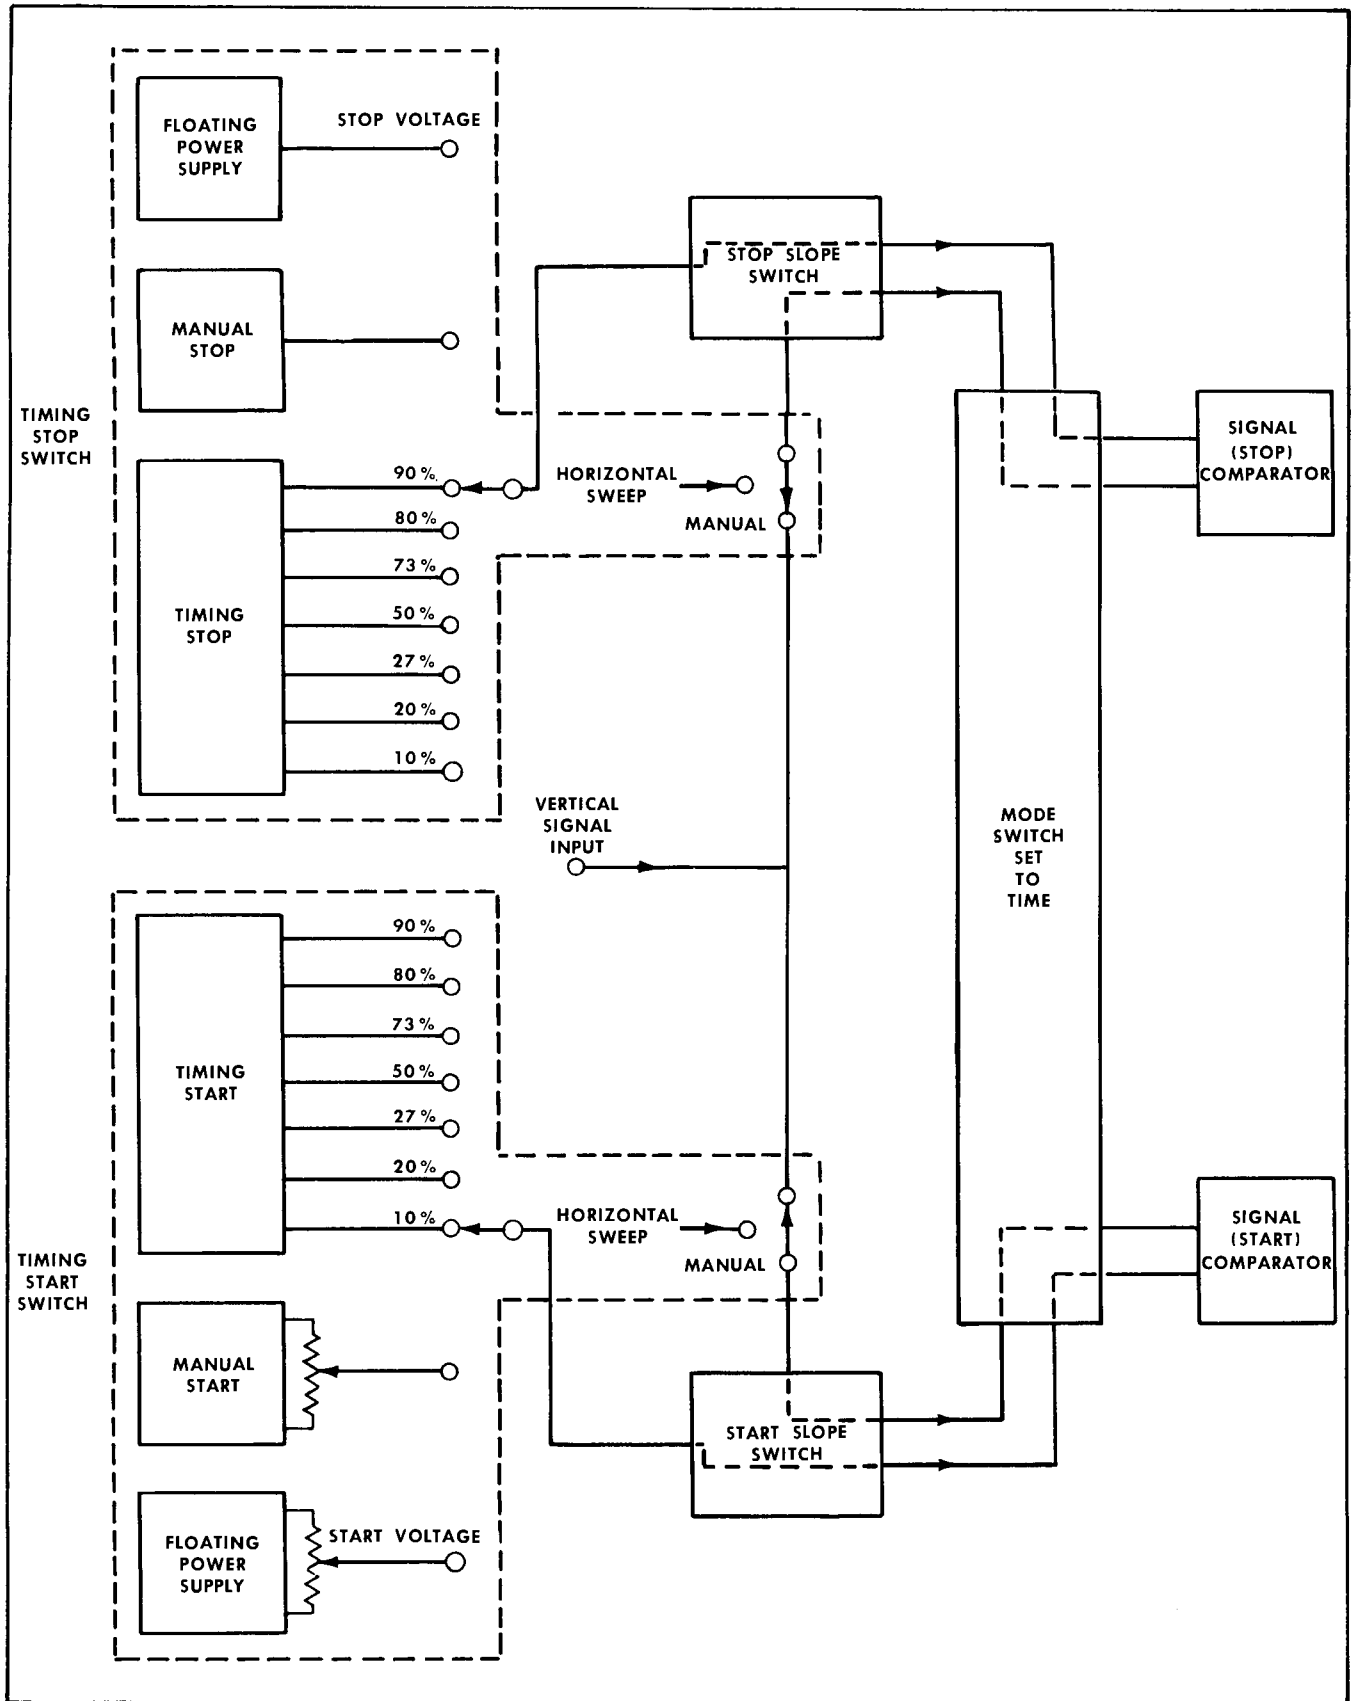

Fig. 4-4. Connection to comparators in time measurements.
The next part of the system contains the circuits that feed the start and stop signal comparators (see Fig. 4-4). Since the comparator inputs are different for each mode of operation, the modes will be described separately, starting with time measurements.
2. The signal from the vertical amplifier plug-in. The START SLOPE and STOP SLOPE switches (Fig. 4-4) are front-panel switches set to the polarity of the waveform slope being measured (+ positive-going, — negative-going). The two inputs to each switch pass to the MODE switch (time measurements) and on to the comparators.